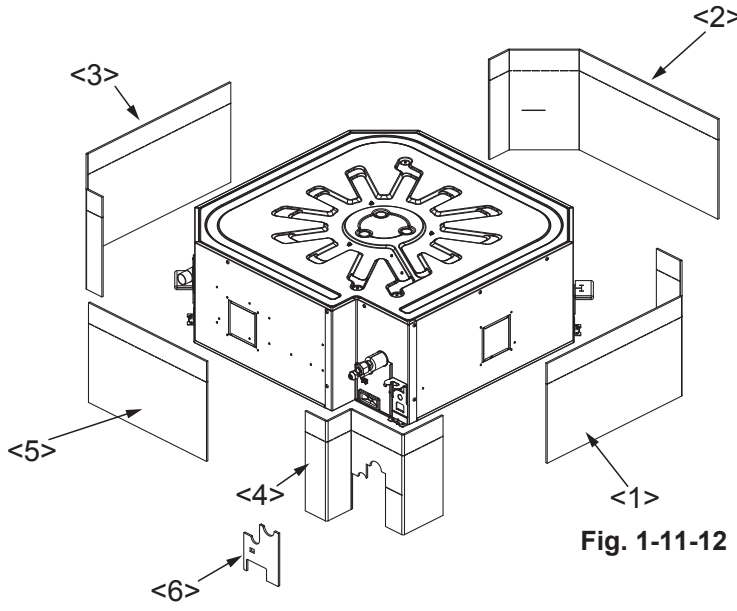

Fig. 1-11-12
1. Align the slits of the side panel insulators <1> to <4> with the hanger, and attach the parts to the side panels of the indoor unit. (Fig. 1-11-12)
2. Now attach the side panel insulator <5> to the side panel of the indoor unit. (Fig. 1-11-12)
3. Align the side panel insulator <6> with the piping cover, and attach the part. (Fig. 1-11-12)